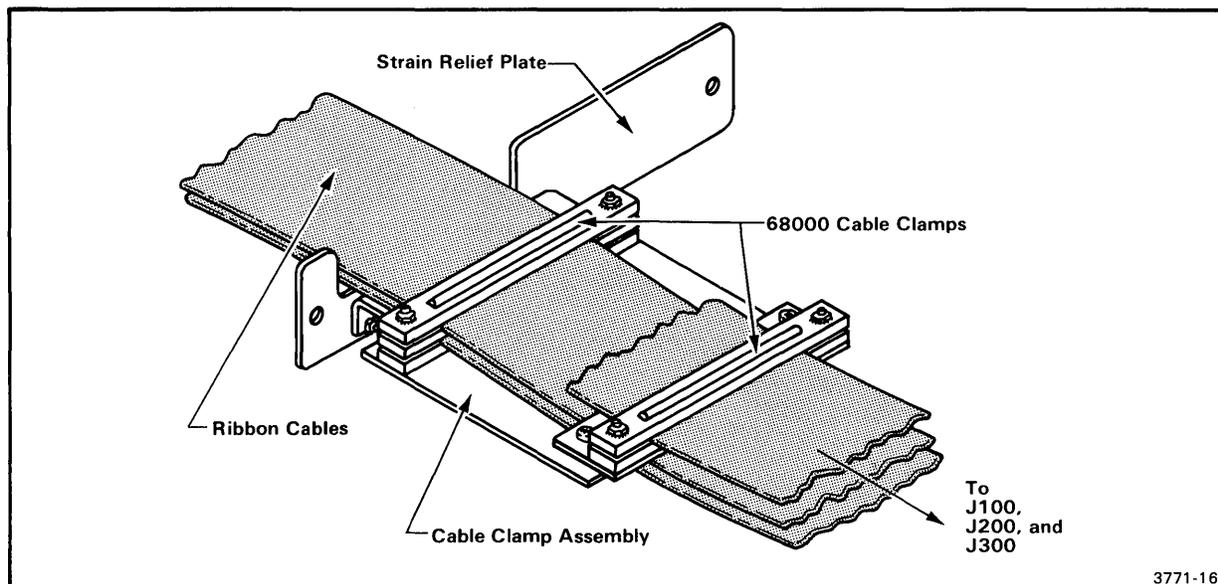

Fig. 3-6. Ribbon cable installation.
12. Ensure that you have allowed enough ribbon cable to reach the Cable Termination board (already attached to EMU 1), which is now located in the development system's card cage. Then mount the long Prototype Control Probe ribbon cables to the cable clamp assembly, using the new clamps provided. Secure the cable clamps with hex nuts and lock washers. Refer to Fig. 3-6.